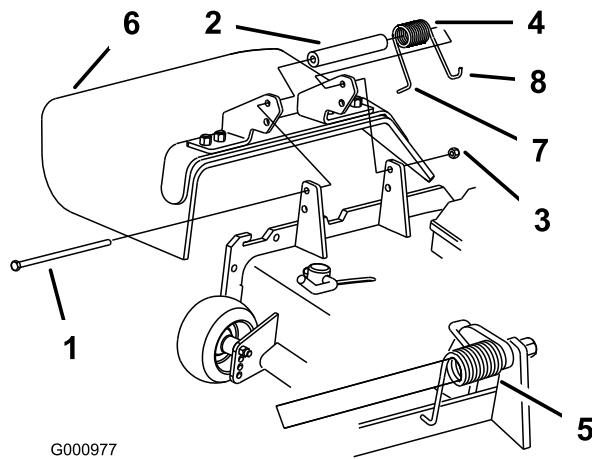

Figure 38
- Remove the locknut, bolt, spring and spacer holding the deflector to the pivot brackets (Figure 38). Remove the damaged or worn grass deflector.
Note: Make sure the **L** end of the spring is installed behind the deck edge before installing the bolt as shown in Figure 38.
- Install the bolt and nut. Place the **J** hook end of the spring around the grass deflector (Figure 38).